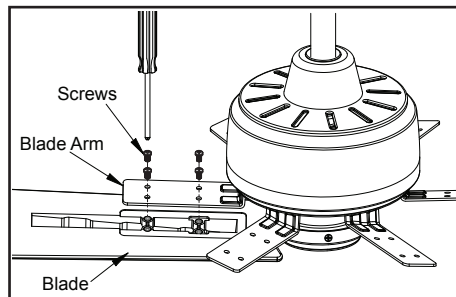

Figure 17
1. Attach blade to blade bracket using mounting hardware provided. Tighten each screw securely. (Figure 17)